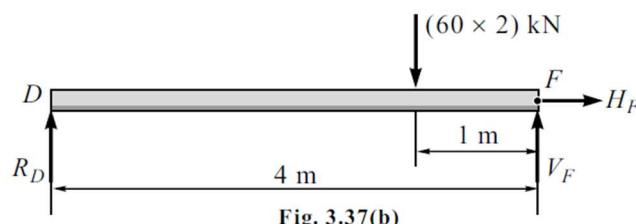

Fig. 3.37(b)
- (ii) Consider the F.B.D. of beam AC [Fig. 3.37(c)].